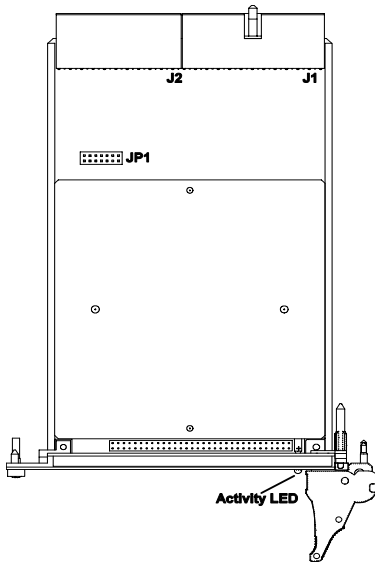
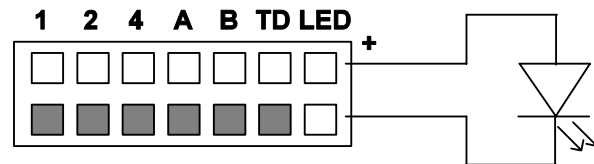

Figure 1 Jumper Location
Figure 2 JP1
1. Set the SCSI ID before installing the SC3 in the cPCI chassis. The SCSI ID is determined by installing jumpers on pins 4, 2, and 1, or no jumpers for ID 0. JP1 is a set of option jumpers used to configure the internal SCSI ID, internal bus SCSI termination, options, and to power an external LED. Refer to Figure 1 for the location of JP1 and Table 2 for valid SCSI ID numbers and jumper combinations. Figure 2 shows JP1 pins.
The SC3 includes active termination that is enabled by default. Termination may be disabled by installing a jumper on the pin labeled TD on JP1. See Figure 2 for the location of TD on JP1.
The last jumper on the right of JP1 is used to install a remote-mounted LED without external power or resistors. The output is active low and includes a 120 Ohm current-limiting resistor. See Figure 2 for the location of the LED on JP1.
SCSI disconnects are controlled by the SCSI host adapter and are enabled by default. Without using the host adapter controls, disconnects can be disabled by installing a jumper on pin labeled B. See Figure 2 for the location of pin B on JP1.